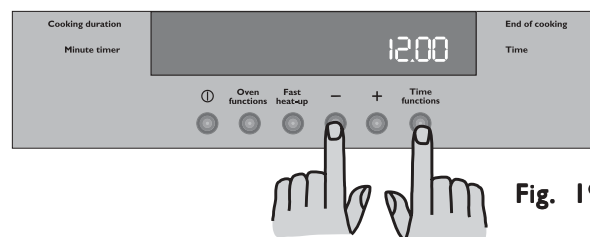

Fig. 19
- 2) Press buttons Time functions and "—" at the same time. A short acoustic alarm will be heard and the indication 12:00 will appear in the display (Fig. 19).